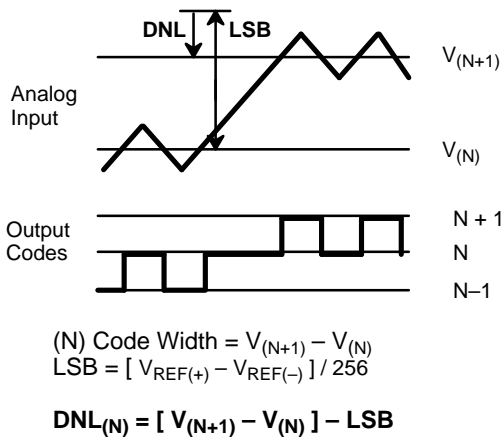

Figure 3. DNL Measurement
- ¹ Tester measures code transitions by dithering the voltage of the analog input (V_{IN}). The difference between the measured and the ideal code width ($V_{REF}/256$) is the DNL error (*Figure 3*). The INL error is the maximum distance (in LSB's) from the best fit line to any transition voltage (*Figure 4*). Accuracy is a function of the sampling rate (F_S).